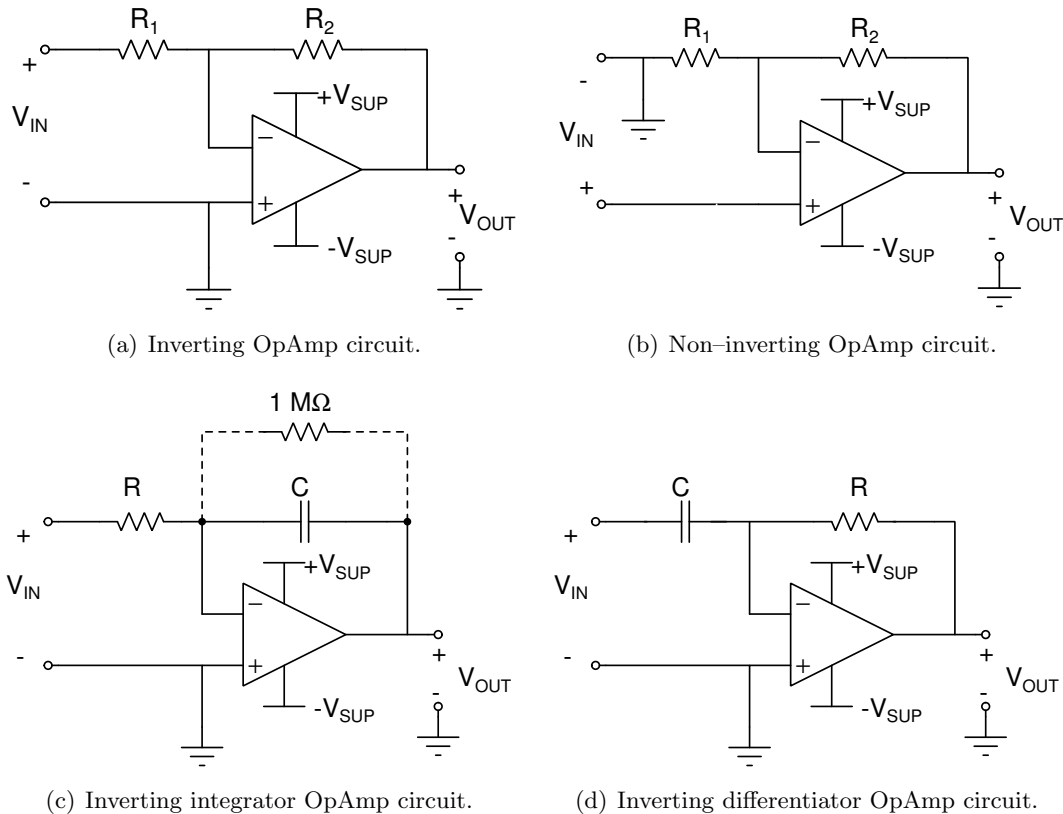
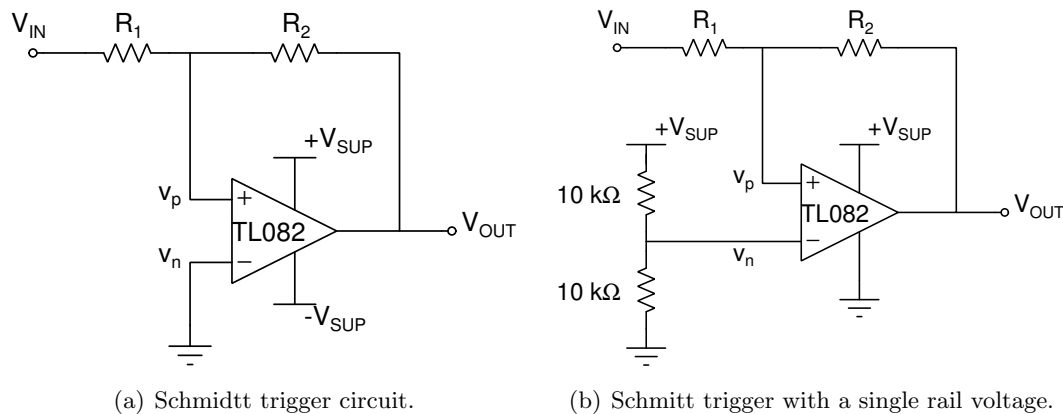

Figure 1: Four basic OpAmp circuits using negative feedback.
Figure 2: Example of a Schmitt trigger circuit using an Op Amp with positive feedback.
1. Review the ideal OpAmp circuits from ECE 210 and make sure you are able to calculate the $V_{OUT}(t)$ as a function of $V_{IN}(t)$ for each of the four OpAmp configurations shown in Figure 1. These OpAmps use negative feedback to achieve amplification within the active region of operation.
2. Use NGSpice to analyze the inverting OpAmp circuit in Figure 1(a) for both the ideal OpAmp and the TL082 OpAmp.
3. There are many ways to implement a Schmitt trigger. One implementation is shown in Figure 2(a). This circuit uses positive feedback. The output (V_{OUT}) is connected through
4. Assume the OpAmp in Figure 2(a) is ideal and $R_1 = 3 \text{ k}\Omega$ and $R_2 = 10 \text{ k}\Omega$.
5. All of the OpAmps shown in Figure 1 and the circuit shown in Figure 2(a) can be modified to operate from a single rail voltage. This is illustrated for the Schmitt trigger circuit in Figure 2b. In this circuit $-V_{SUP} = 0 \text{ V}$ and the inverting input (v_n) is biased at $+V_{SUP}/2$. Make a sketch the schematic for the OpAmp configurations in Figure 1 when operated from a single rail voltage.
6. For the Schmitt trigger shown in Figure 2(b), assume the OpAmp is ideal and $+V_{SUP} = 10 \text{ V}$. Analyze this circuit to determine values of resistors R_1 and R_2 such that:
7. Use NGSpice to simulate the transfer function of the Schmitt trigger circuit in Figure 2(b) with the resistor values you calculated in step 6. Set the power supply voltage to 10 V. Set the input to a DC voltage. Analyze the behavior of this circuit using both the ideal OpAmp and the TL082 OpAmp.
3. Turn on the Dual Voltage Supply (PS) and turn all voltages down to zero. Set the Tracking Ratio knob fully clockwise till it clicks. Attach the ends of extra long wires between (a) the PS common, adjustable +20, and adjustable -20 volt terminals and (b) the “Main Power” GND, +10V, and -10V terminals on the TI evaluation board.
5. Connect the function generator (FG) to the input of the OpAmp circuit. Adjust the FG to output a sine wave of 0.5 Vp at a frequency of 10 kHz. Connect one channel of the oscilloscope to the FG output and the other channel to the output of the OpAmp. What are the gain and phase shift of the output with respect to the input? How do these results compare with simulated predictions? Record the results in you notebook.
12. Build the inverting integrator circuit in Figure 1(c) with $R = 1\text{ k}\Omega$ and $C = 0.1\text{ }\mu\text{F}$. The $1\text{ M}\Omega$ resistor across the capacitor provides a DC path from the output to ground. What is the relationship between V_{OUT} and V_{IN} for this circuit?
16. Build the inverting differentiator shown in Figure 1(d) with $R = 1\text{ k}\Omega$ and $C = 0.1\text{ }\mu\text{F}$. What is the relationship between V_{OUT} and V_{IN} for this circuit?
19. Build the Schmitt trigger circuit shown in Figure 2(b) with the resistor values you determined in step 8 of the Pre Lab.